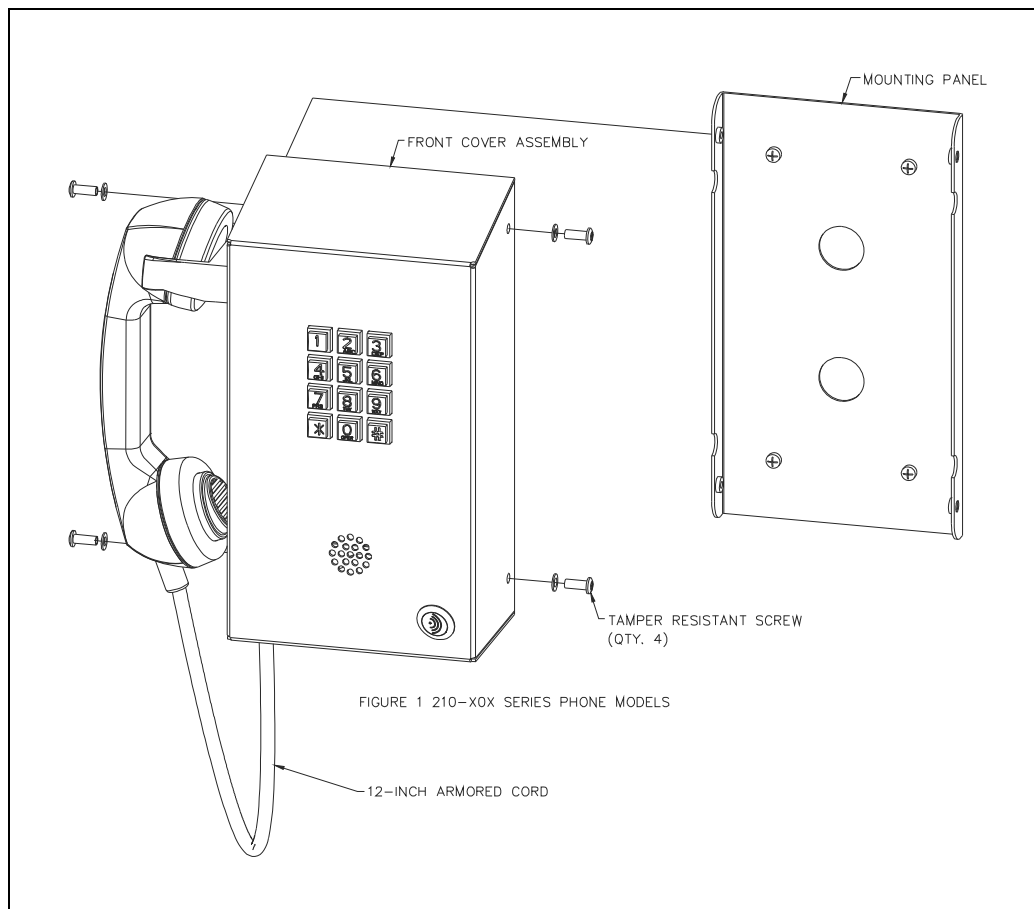

Figure 1. Model 210-001BH and 210-700BH—Front Cover Removal
1. Remove the four tamper-resistant front cover screws securing the phone to the mounting plate. Retain the screws (See Figure 1).